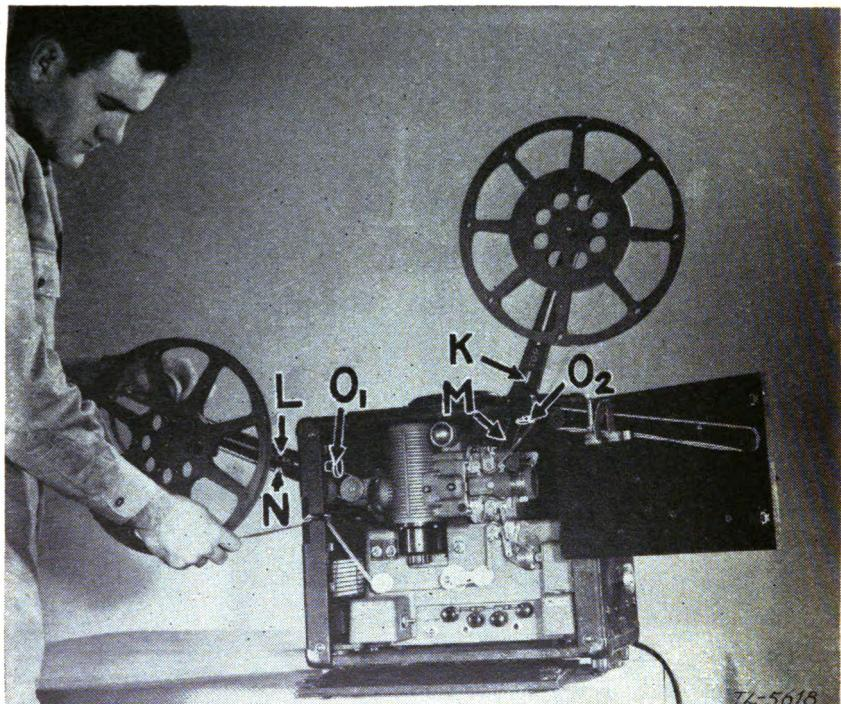

FIGURE 7.—Bell & Howell projector ready for operation.
(3) *Bell & Howell* (fig. 7).—*(a)* Open projector case door and remove feed arm and take-up arm.